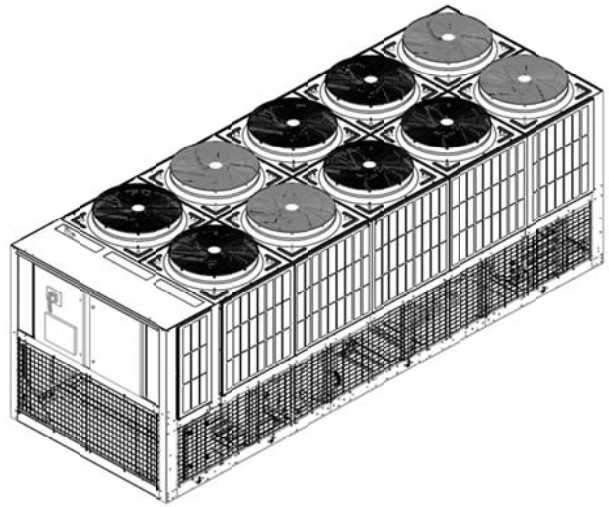

FIG. 5 – LOUVERED/WIRE PANELS COMBINATION
**LOUVRED/WIRE PANELS COMBINATION** - Louvred panels, painted the same colour as the unit, are mounted on external condenser coil faces. Heavy gauge, welded wire-mesh panels, coated to resist corrosion, are mounted around base of machine to restrict unauthorized access. See Figure 5.